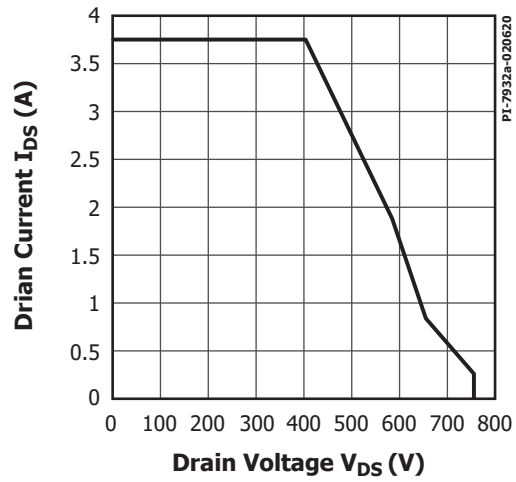

Figure 14. Maximum Allowable Drain Current vs. Drain Voltage.
2. See Figure 14, for $V_{DS} > 400\text{ V}$.